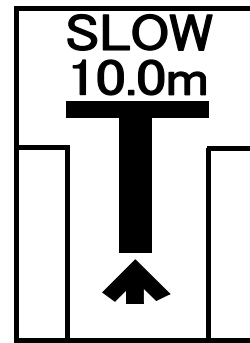

Fig.6
- (1) While taxiing the aircraft using the system, the pilots should maneuver the aircraft at a low speed to the stopping position. In an event when "SLOW" is indicated on the display screen, the pilots should further reduce the taxiing speed until "SLOW" disappears. This "SLOW" is indicated between 24 and 6 meter point from the stopping position. The speed which "SLOW" is indicated is 5kt or more within the 24 meter point, 2.5kt or more within the 6 meter point from the stopping position. (Fig.6)